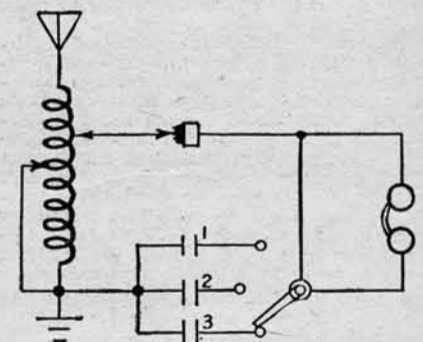

Fig. 2
mica, waxed or oiled paper. The wire from the detector in this hook-up, Figure 2, leads to one of the plates, and the wire leading from the other plate is connected to the wire attached to the slider of the tuner and to the ground.
- 2 brass brackets as shown in Figure 2.